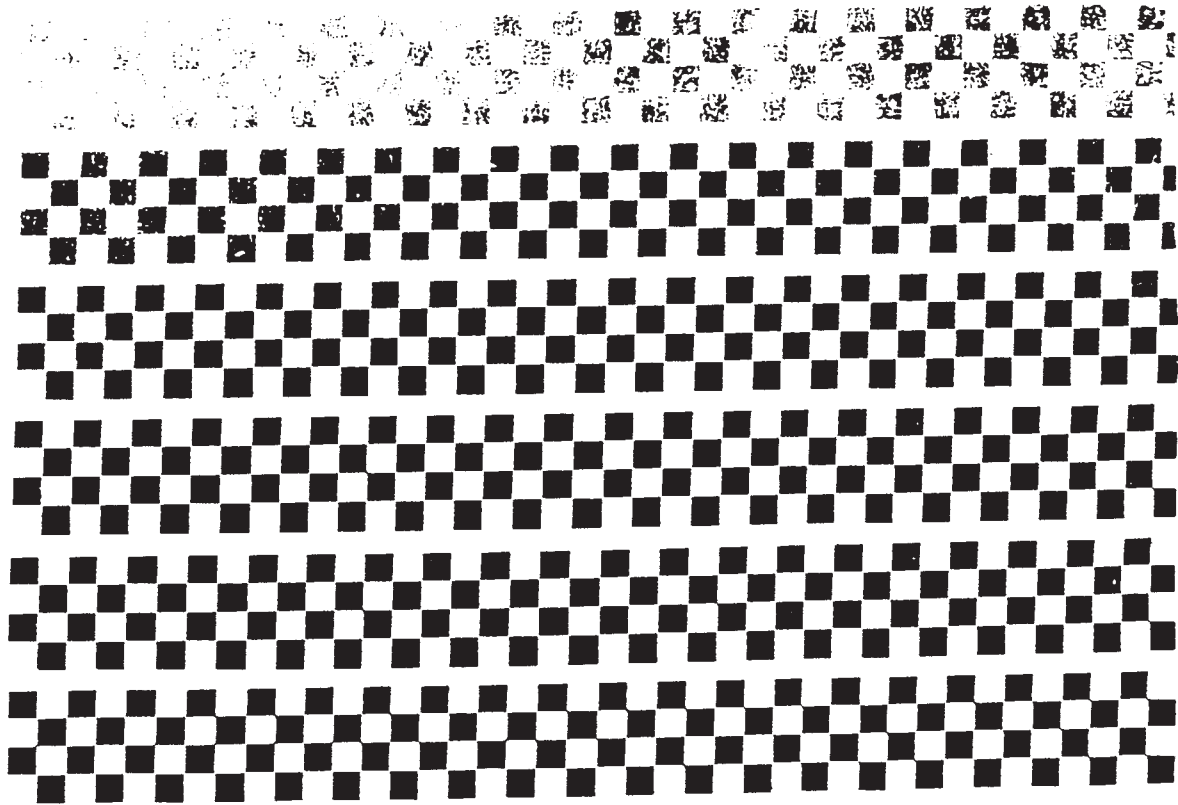

FIG. 10 Test Printout Example
13.7.4.3 A test printout example is shown in Fig. 10.